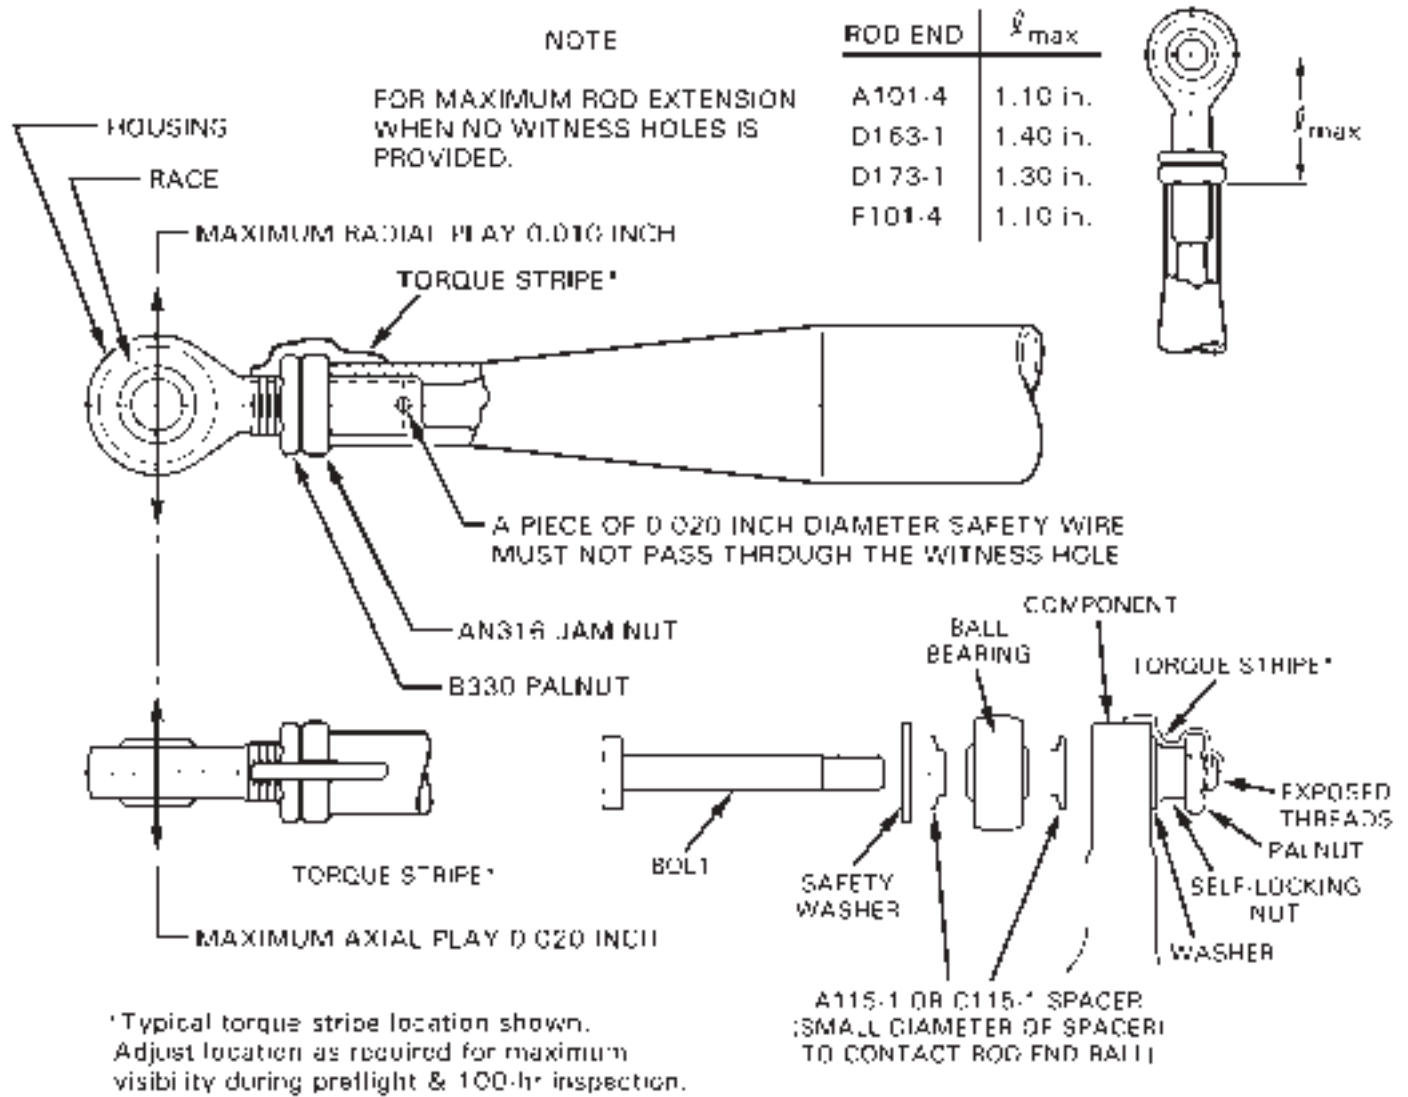

FIGURE 2-1 ROD END AND SPHERICAL BEARING PLAY LIMITS AND TORQUE STRIPE APPLICATION
Refer to Figures 2-1 & 2-1A.
3. Rod ends not riveted in place must block passage of 0.020-inch diameter wire through witness hole. Refer to Figure 2-1 for maximum rod end extension when no witness hole is provided.
4. Rod end jam nuts and palnuts must be torqued per § 1.320 and torque striped per Figure 2-1 at the most visible position for pre-flight inspection. Torque stripe must extend across nuts to both rod end shank and push-pull tube (or pitch link barrel, yoke, support, strut, etc.). Torque stripes are subject to deterioration and must be periodically renewed.
If, during inspection, the remaining torque stripe on a fastener is insufficient to determine joint integrity, then remove accompanying palnut as required and apply specified torque to fastener. If fastener moves, disassemble joint and inspect parts for damage such as fretting, thread deformation, hole elongation, etc.; replace damaged parts. If fastener does not move, install new palnut as required & standard torque per § 1.320. Torque stripe fastener per Figure 2-1.